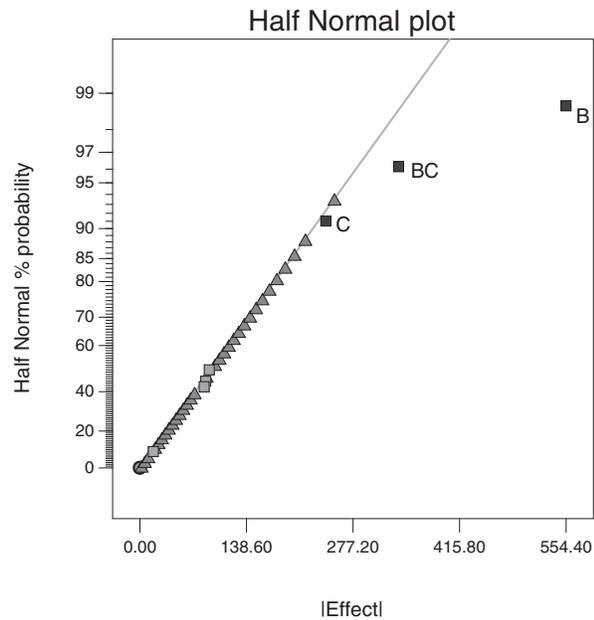
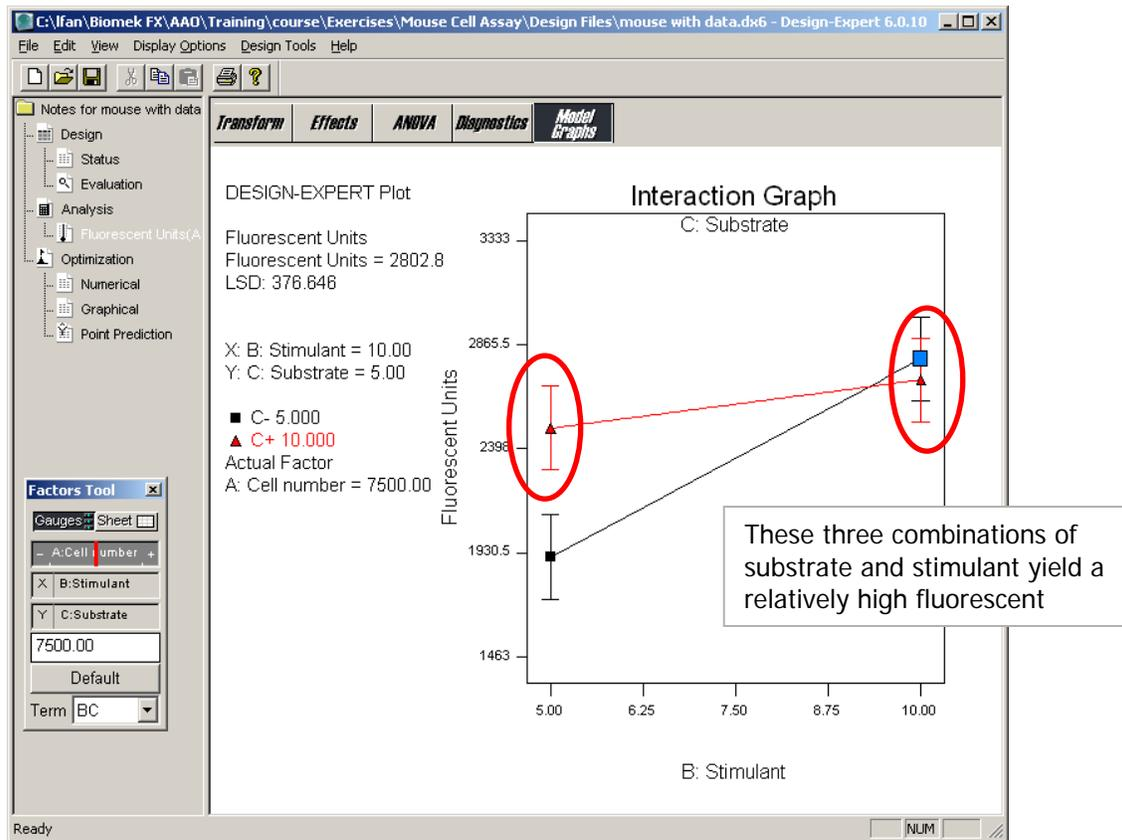

Figure 6: Half-normal plot of effects used to select significant effects – the “outliers” on the graph.
Figure 7: Interaction graph shows the combinations of stimulant and ligand that yield the best fluorescent values.
The analysis of a two-level factorial design such as this involves the use of a tool called a half-normal plot of effects (Figure 6). Any statistically significant factors are easily revealed as outliers on this plot. This case study revealed a statistically significant interaction between the amount of stimulant (B) and the amount of ligand (C). After generating the appropriate analysis of variance as confirmation of the effects plot, model graphs were generated to show the final results (Figure 7). This interaction graph reveals that the experimenter should avoid the combination “B-, C-“which causes a significant reduction in fluorescence. The other combinations are acceptable.